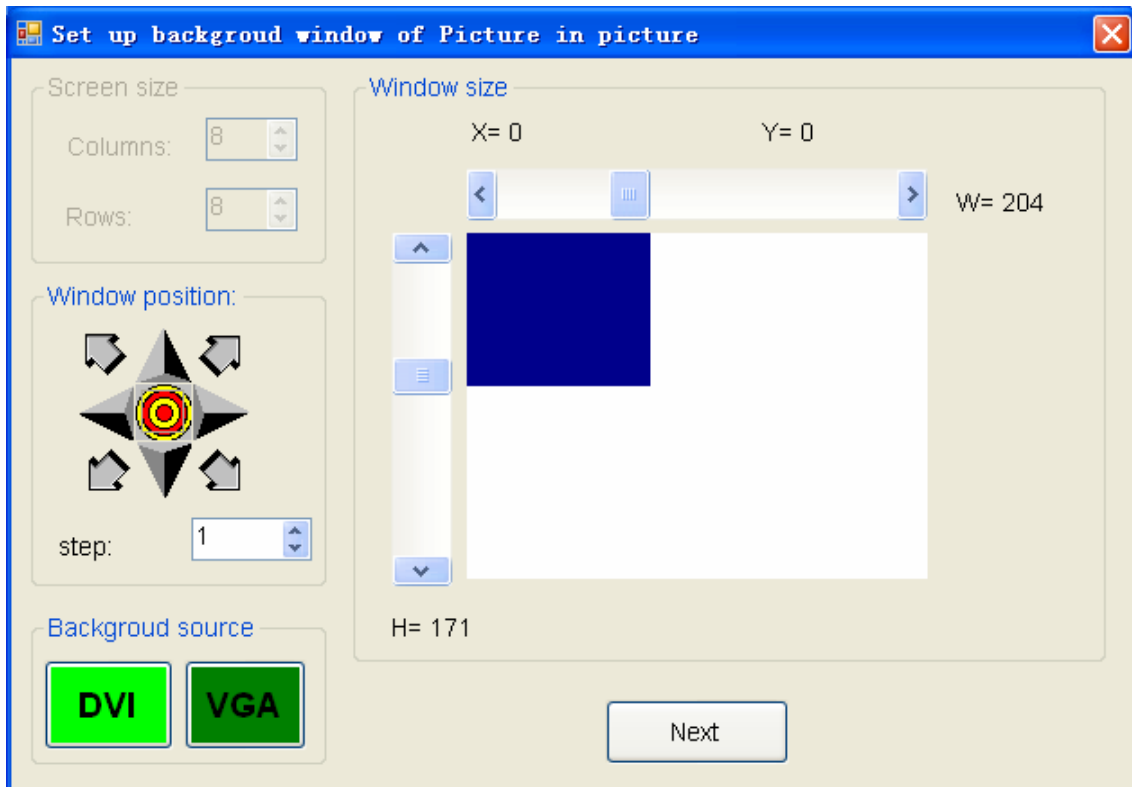
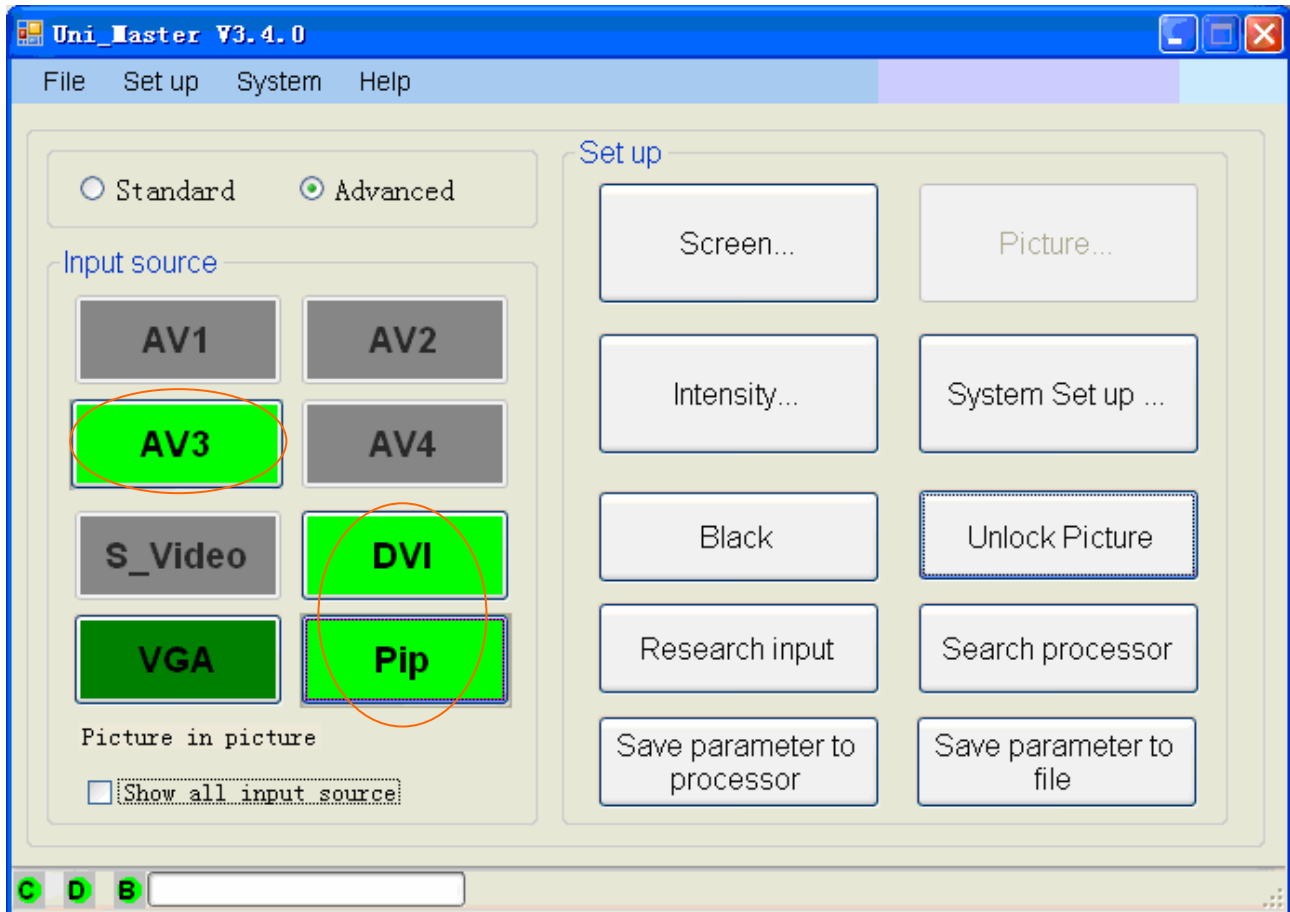

fig.3-3
Fig. 3-5.
Select “picture in picture” then it goes into the interface of “Set up background window of Picture in picture” show as fig.3-3
1. in fig.3-3, “window size” area, the white part indicates screen size setting, the blue part indicates the size/position of the adding video source. After set adding source size/position, it will change automatically according to the settings.
2. in fig.3-3 “window size” area, X, Y present the position of left upper point of the adding video input source. Through “window position” to change its position.
On the fig.3-3 interface, press “next” to go into the “Set up background window of Picture in picture” interface show as fig.3-4.
After setting on the “picture in picture” shown in Fig 3-4., click “Finish” back to main interface shown as Fig. 3-5.
In fig.3-5 “input source”, the non-video input source and adding video source will be in green color. It indicates that the present displaying is in “picture in picture”.
In Fig3-3, click “next” to the “adding images setting” interface shown as Fig 3-4.
4th Step: click “Finish” to exit interface shown as Fig.3-4, Fig.3-3, then back to main interface shown as Fig.3-5
In the main interface Fig.3-5, click any valid input source at random, it cancels the “picture in picture”, the selected input source will display on the screen at the same time. Or switch the “picture in picture” button.